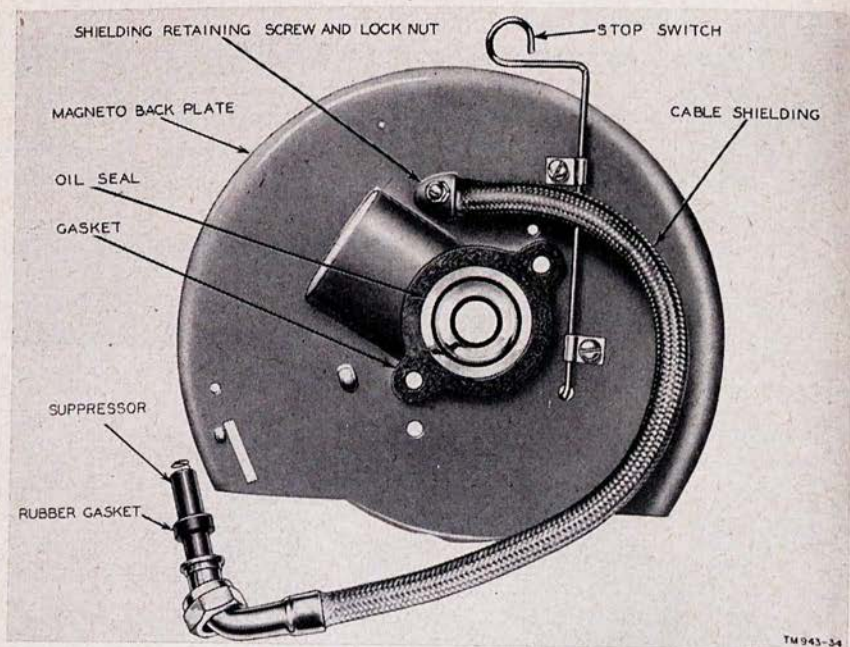

Figure 34. Magneto backplate, stop switch, and spark plug cable.
c. BACKPLATE AND CABLE DISASSEMBLY (fig. 34).
- (1) Unscrew the shielding retaining screw and locknut to release the shielding from the backplate.
- (2) Pull the cable from the shielding.
- (3) Do not remove the oil seal from the backplate unless inspection indicates the need for replacement.